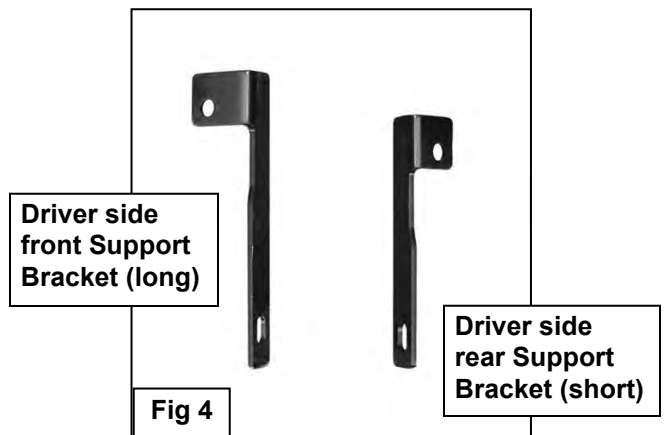

Fig 4
4. Locate the driver side front Support Bracket , **(Figure 4)**, and attach it to the Bolt Plate with (1) 10mm Flat Washer, (1) 10mm Lock Washer and (1) 10mm Hex Nut, **(Figure 6)**. **NOTE:** Place Support Bracket against the front facing side of the Mounting Bracket with the bent tab facing towards the **front** of the vehicle. Snug but do not tighten hardware at this time.
8. Repeat **Step 3** to install (1) Bolt Plate in the inner body panel. Select the driver side rear Support Bracket, **(Figure 4)**. Attach the Support Bracket to the Bolt Plate with (1) 10mm Flat Washer, (1) 10mm Lock Washer and (1) 10mm Hex Nut, **(Figure 7)**.